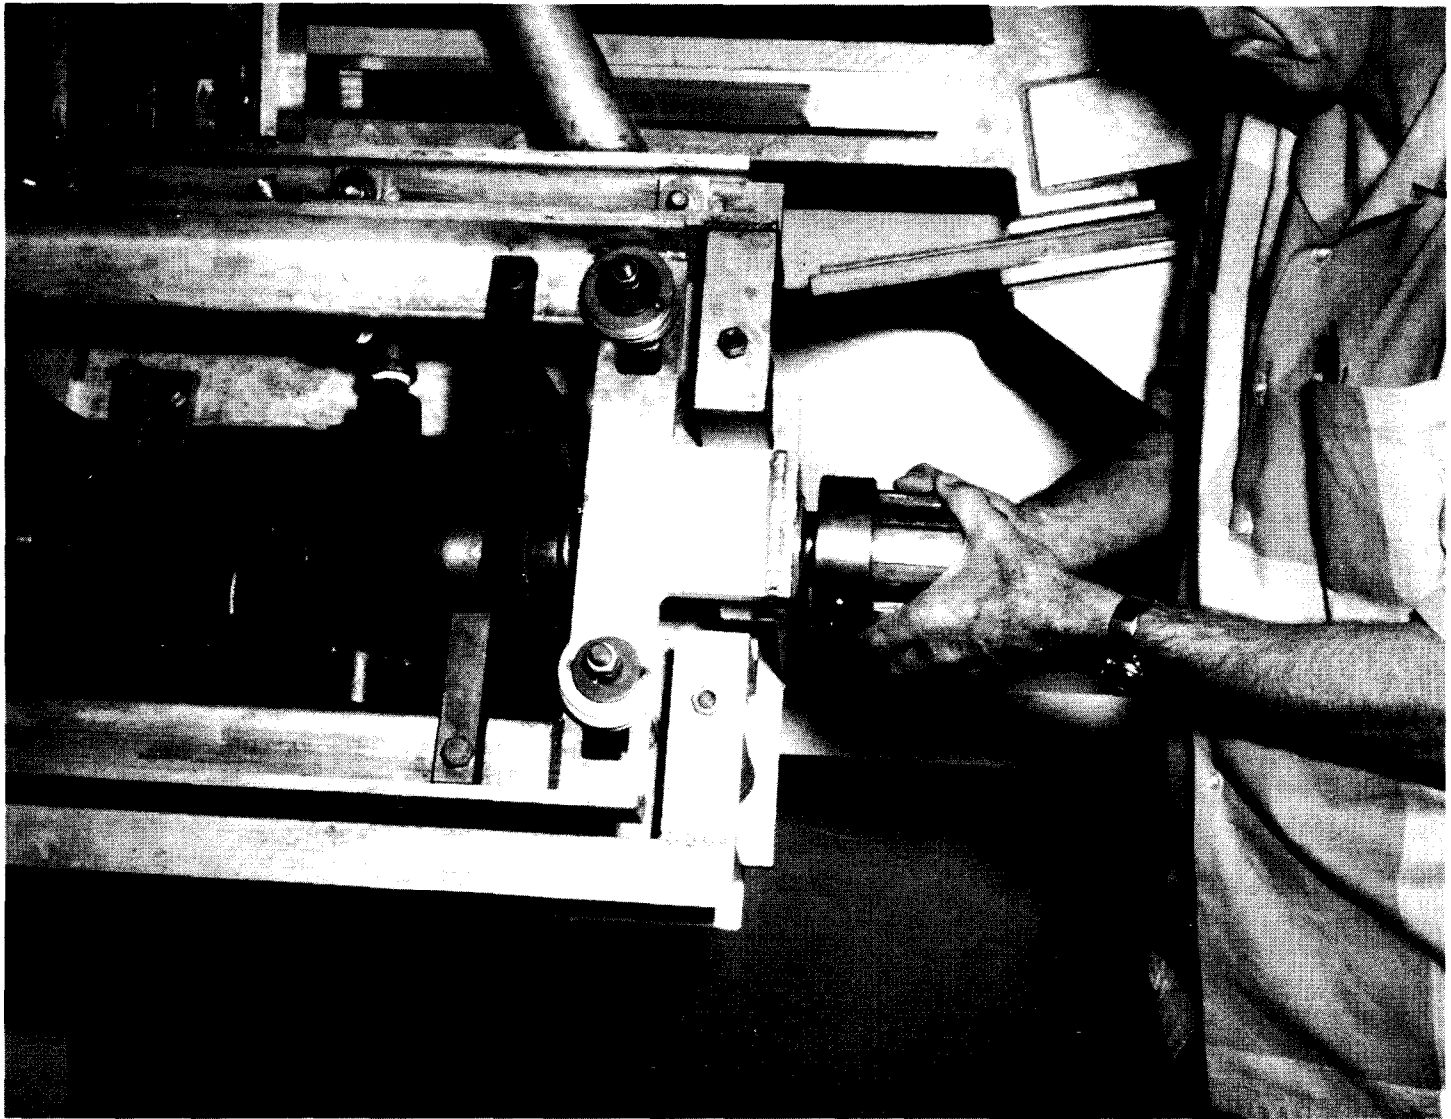

FIG. 5
Splined plug on end of impact wrench must turn freely or it cannot be inserted into nut. (See fig. 5) Plug rotates one tooth or less as it enters nut.
- E. Determine that splined plug turns freely (fig. 5).